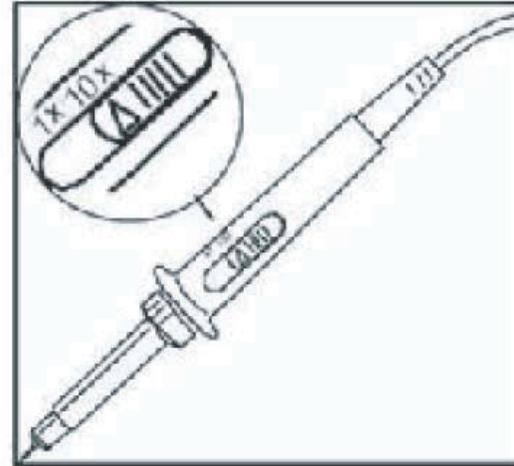

Figure 1-5 Setting of Probe Attenuation Rate Switch
①. 72-2650/72-10510/72-8225A /72-8705A/72-8710A DSO has two input channels with an additional external trigger input channel. Please check the signal according to the following steps. Connect DSO probe to CH1 input terminal and set the attenuation rate switch on the probe as 10× (Figure 1-5)